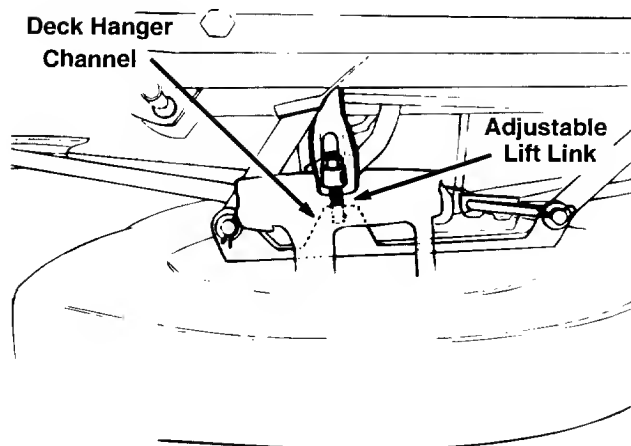

Figure 9
2. Pull the adjustable lift link out of the deck hanger channel. See Figure 9. Turn the adjustable lift link up or down as necessary to level the deck. Usually only one or two turns are needed.